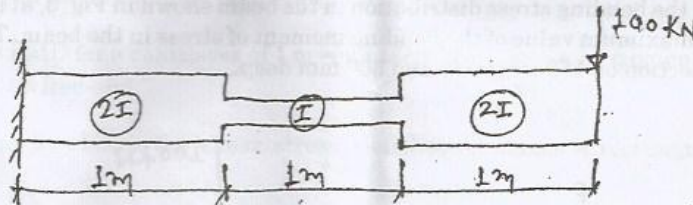

Fig. 4
- b) By conjugate beam method, find the slope at the mid-span of the prismatic and homogeneous cantilever beam shown in Fig. 4. (13)